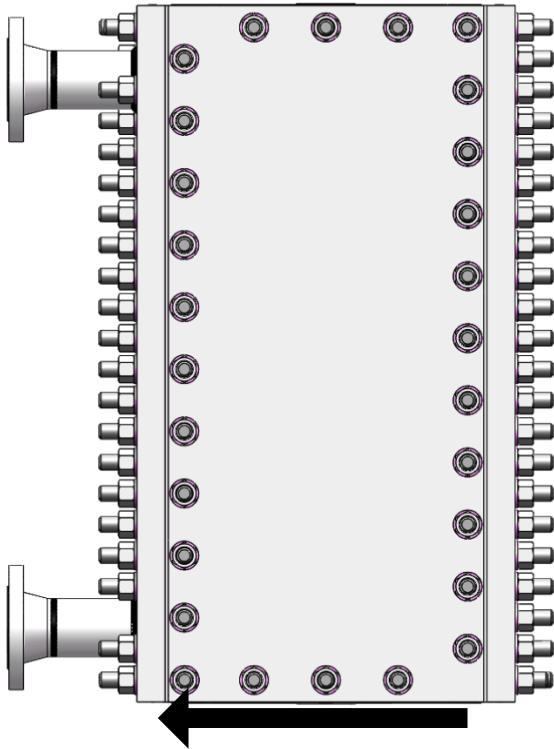

Figure 19
- Pre-tighten all nuts of “circling around the bottom” with impact wrench (figure 19 & 20).
- Do the same operation for “around the bottom” (Figures 19 & 20).